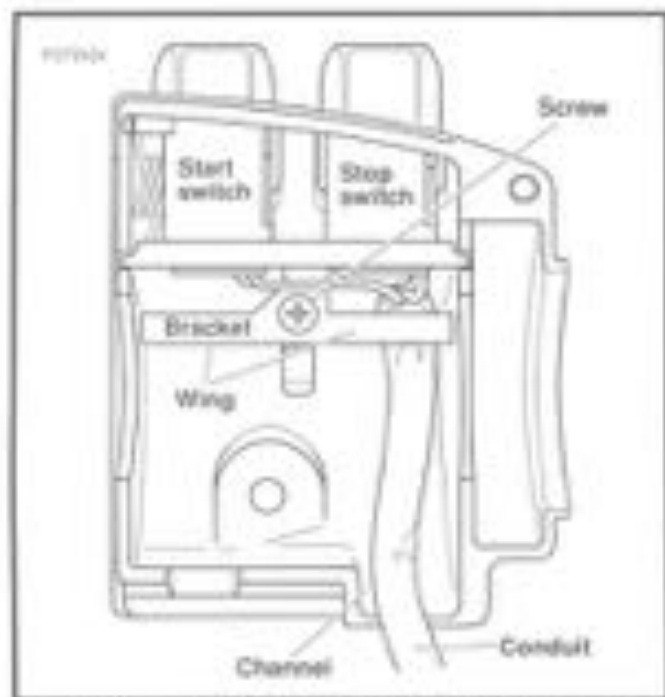

Figure 7-77. Upper Right Handlebar Switch Housing (Without Splices)
1. See Figure 7-77. From inside the switch housing, remove the Phillips screw with lockwasher to release the bracket. Remove the bracket and switch assembly from the housing.
9. Install Phillips screw (with lockwasher) to secure bracket inside housing. Verify that wing on engine stop switch side of bracket captures edge of conduit as shown in Figure 7-77.